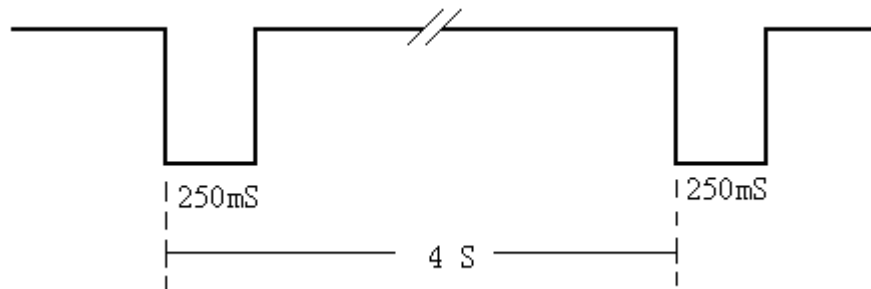

Figure 14 RING indicator for incoming call
- 1) Once the incoming voice call, the module sends out “ring” message through UART and meanwhile outputs 250mS low pulses at 4S period on RING signal. See Figure 14.